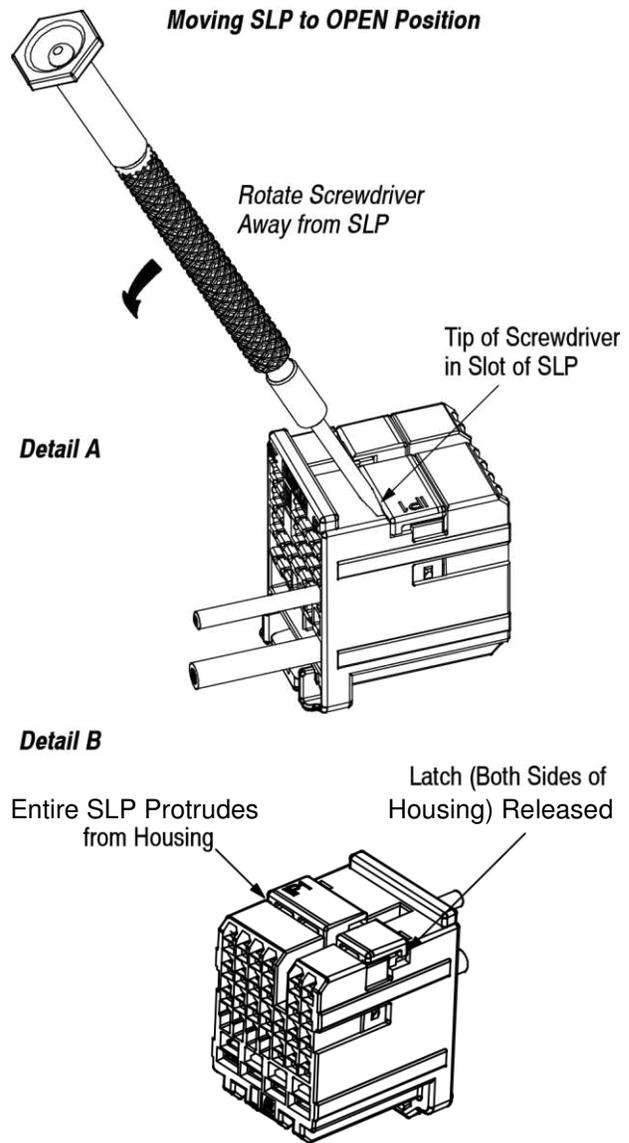

Figure 5
2. Move the SLP to the OPEN position as follows: insert and slide the tip of the screwdriver into one of the slots of the SLP (located on the bottom of the plug assembly), and pivot the screwdriver *away from* the SLP until the latch is released. See Figure 5, Detail A. Ensure that the latch (on other side of housing) is also released and that the entire SLP protrudes from the housing. See Figure 5, Detail B.